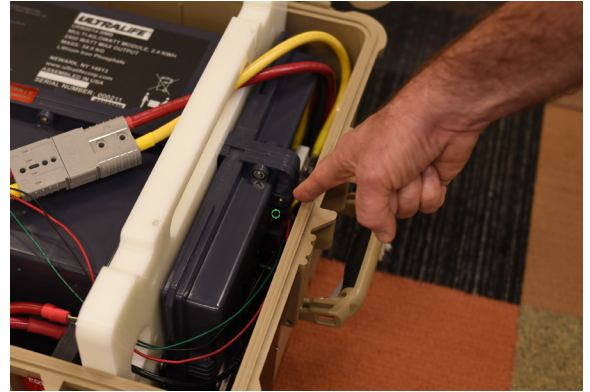

Figure 16. BMS LED indicator light
6. Visually confirm that the BMS LED indicator light (Figure 16) is working. It should be flashing green if the battery is charged—or if the Li Expander Pak is above 23.0 volts. If the BMS LED is flashing, the issue with the battery status indicator LED on the front of the Li Expander Pak is “downstream” from that point.